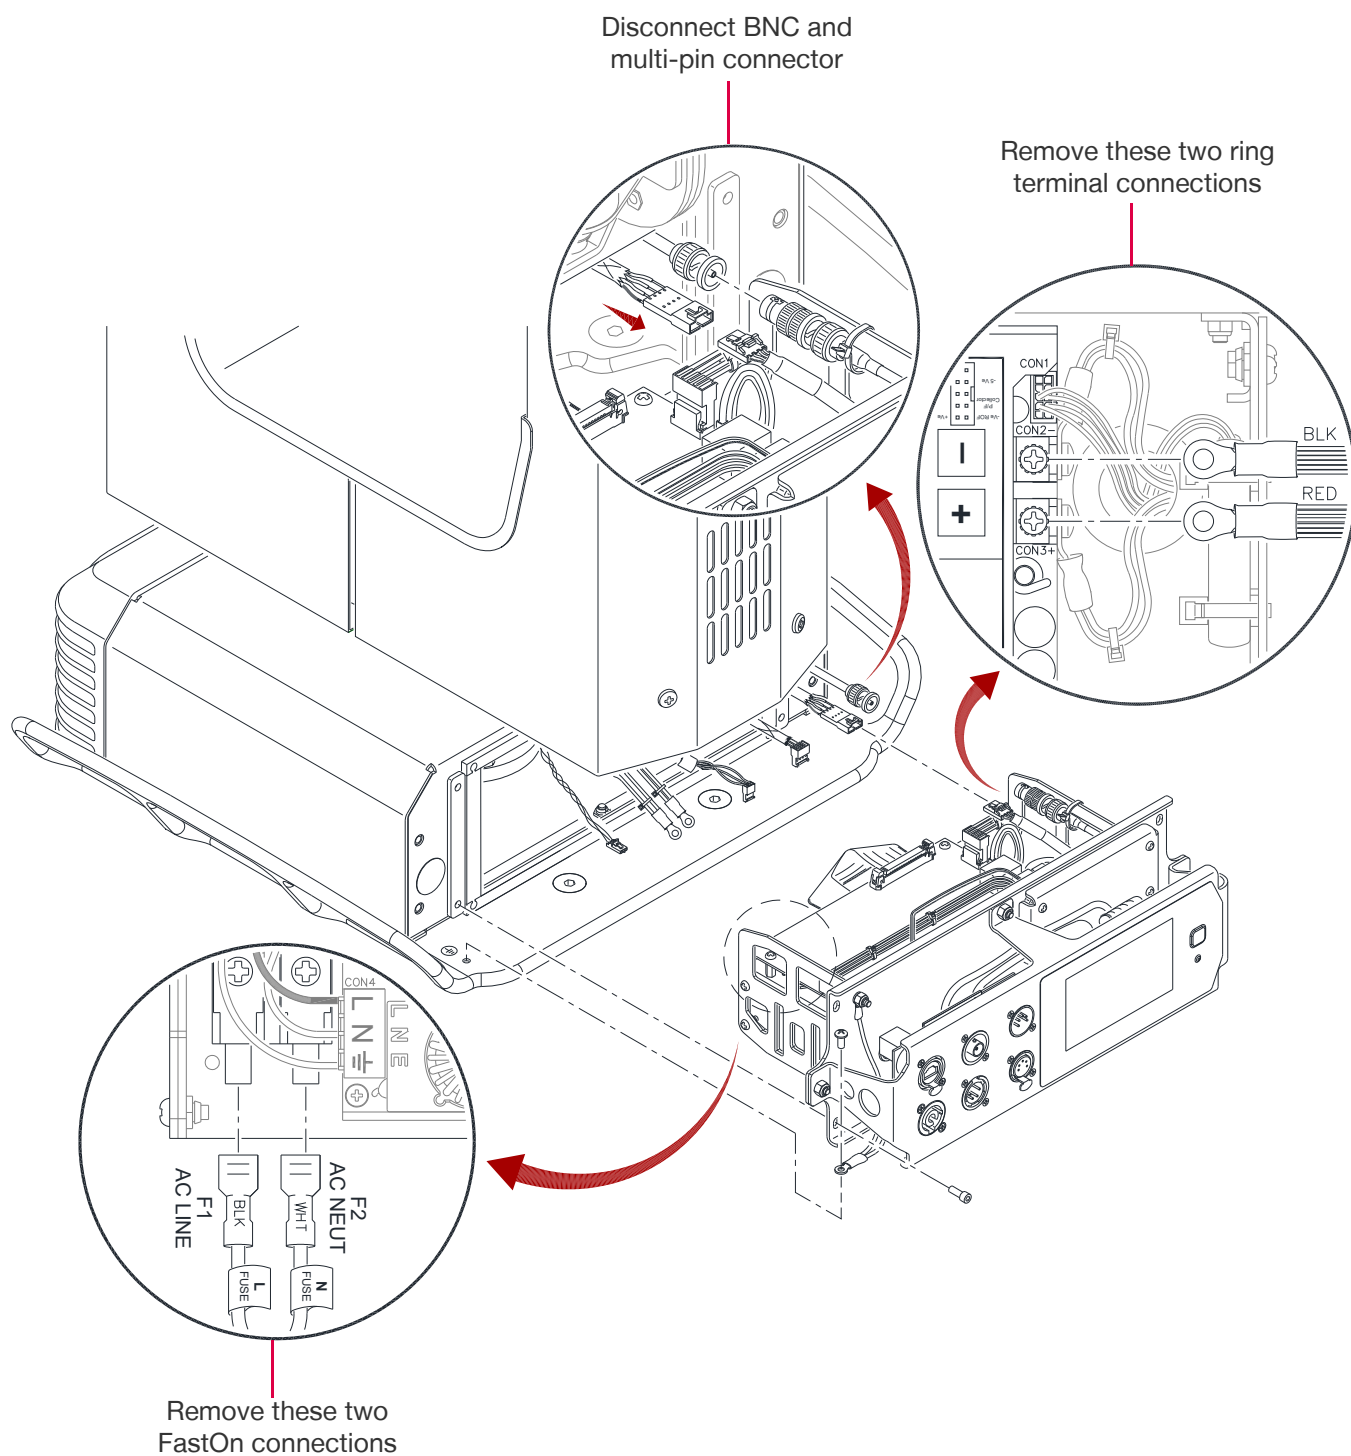

Figure 3-60: Removing the Interface/LVS, Part 2
- Step 5. Gently pull the Interface/LVS out a few inches so that you can access the PCB and ballast connections that now must be disconnected. Disconnect connections from the Ballast and from the Yoke. (Figure 3-60)